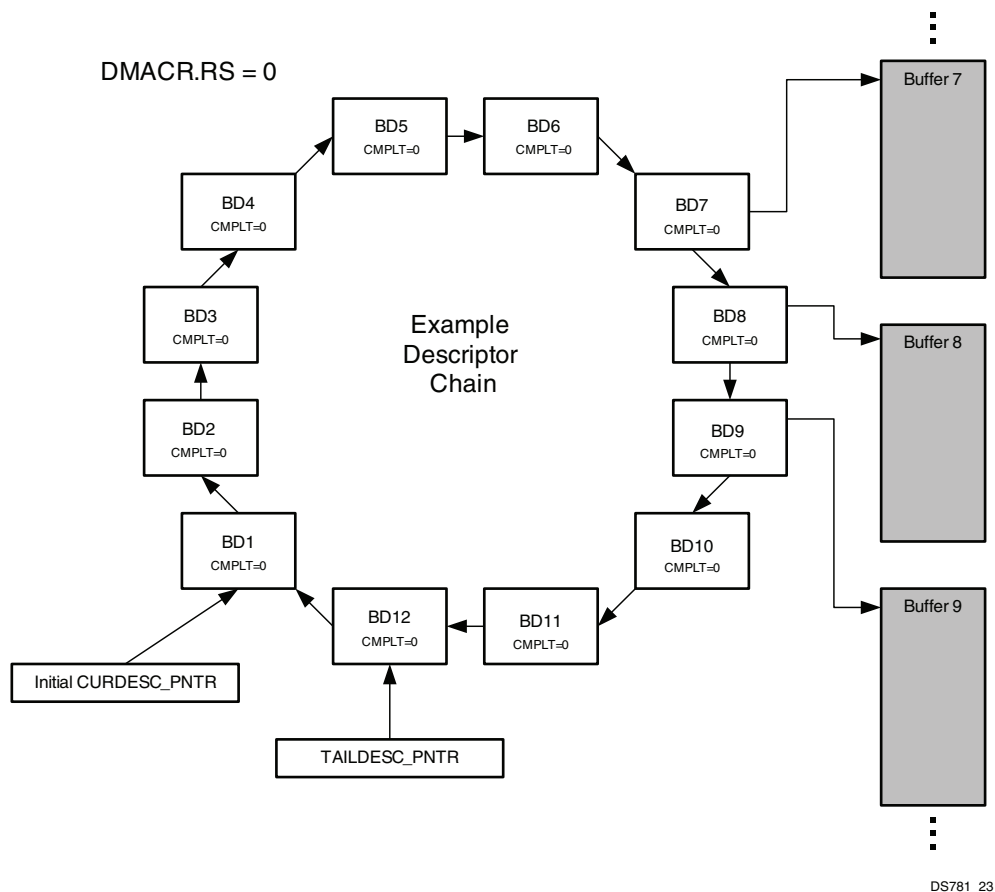

Figure 4-13: Initialization
1. Initialization (DMACR.RS=0), as shown in Figure 4-13.